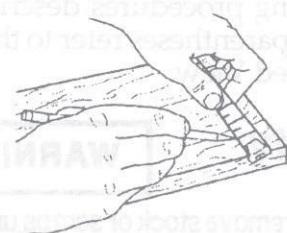
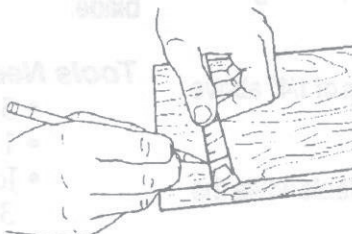

Fig. 10
Fig. 11
8. Use a pencil, as in Fig. 10, to make a mark about 1" to 2" from the edge of a jointed board approximately 3/4" thick x 7" wide x 18" long. Make a mark on the other end the same width as the first one, as seen in Fig. 11.